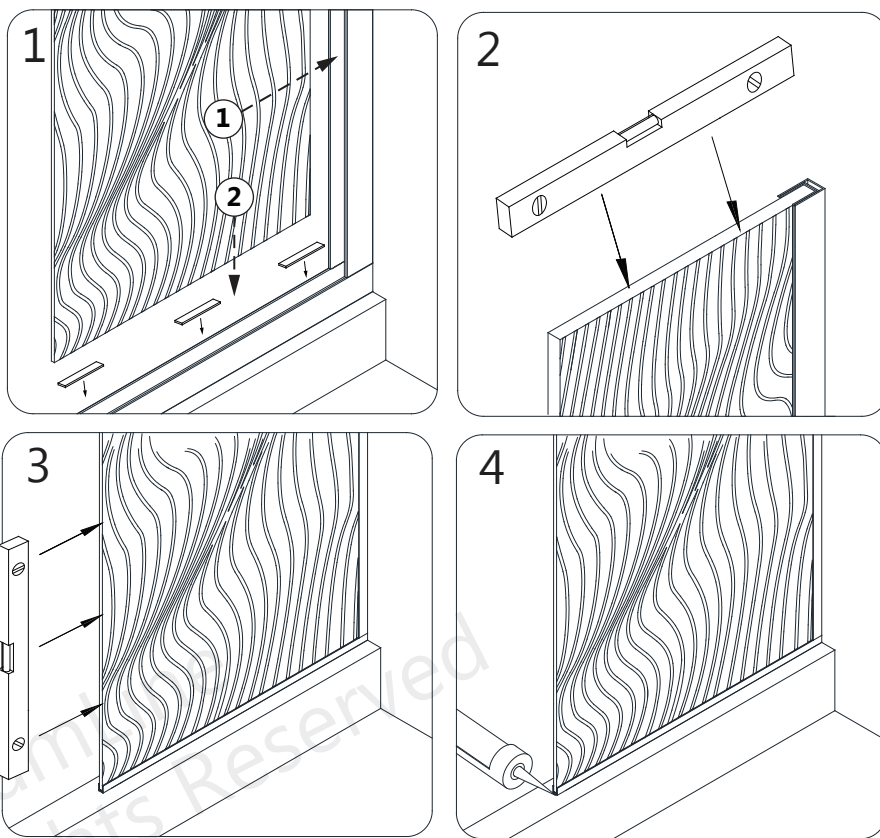

Fig 4
4. Install the **Stationary Glass (#11)** into the **Vertical U-Channel (71") (#09)** and then slide it down into the **Bottom U-Channel (34") (#29)**. Apply a dab of silicone to the exposed end of the **Bottom U-Channel (34") (#29)**. (Fig 4)